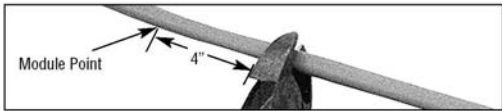

Figure 1
**Note:** Cutting the cable between module points (indentions in cable) creates a non-heated cold lead. See Figure 1.